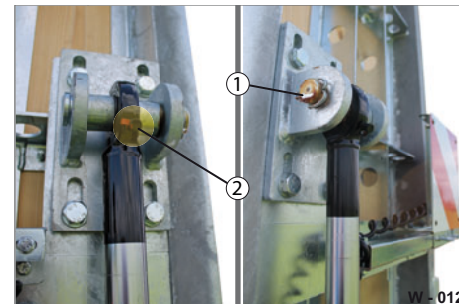

Fig. 17 Upper ramp bearing point, hydraulic cylinder
- Lubricate the bearing on the lubrication nipple (Fig. 17/2) with a grease gun until lubricant escapes.
- Lubricate the pins (Fig. 17/1) with machine lubricant.